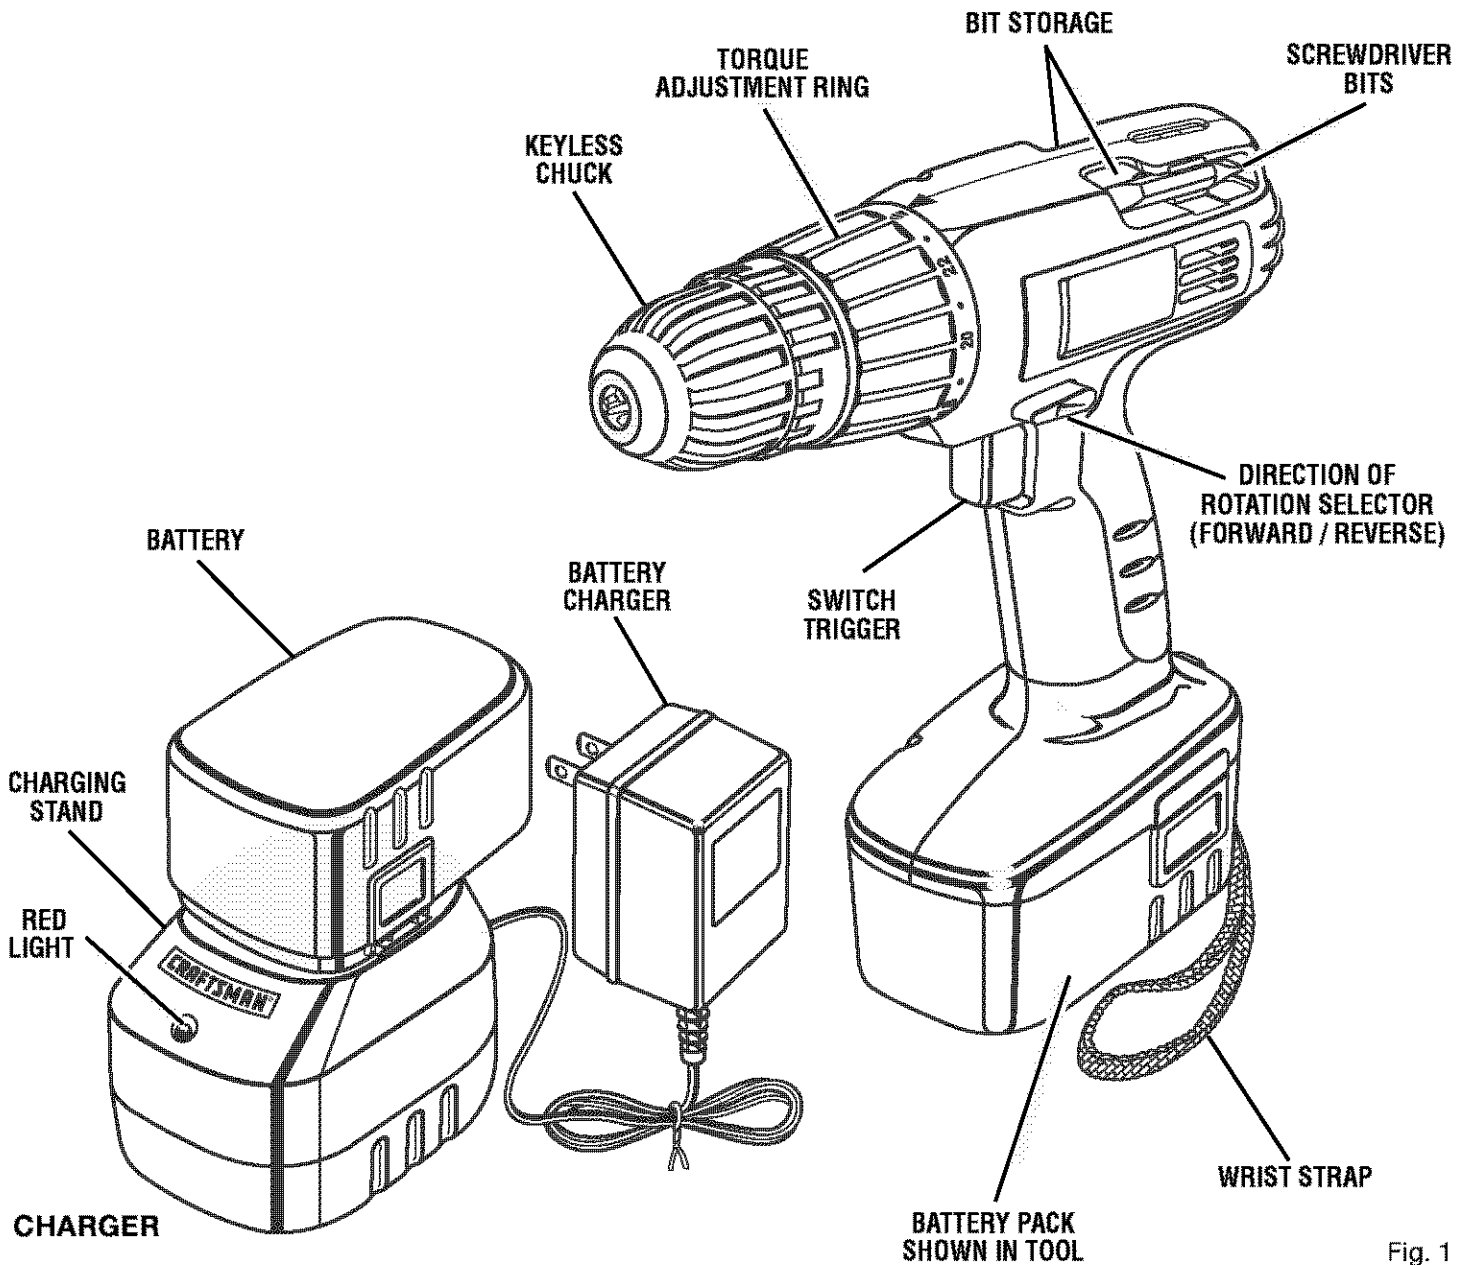

Fig. 1
See Figure 1.
See Figure 1. Page 9
- Place battery pack in charging stand. Align raised rib on battery pack with groove in charging stand. See Figure 1.